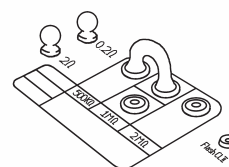
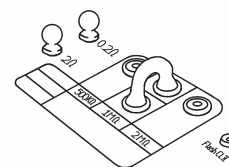
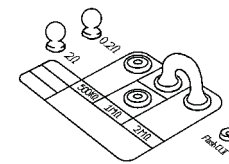

Figure 1
Figure 2
Figure 3
- 3) **Insulation** The Insulation test points are selected by moving the link between the 4 red test terminals. (See Figure 1, Figure 2 and Figure 3). Select the value required and perform an Insulation test. The PAT tester will indicate the test measurement taken.
- 4) **Class I Flash Test** The Class I Flash test points are selected by moving the link between the 4 red test terminals (see Figure 1, Figure 2 and Figure 3). The value selected is referenced to a table printed in the lid of the PowerCheck 1557. Select the test current required and perform a Flash test. The PAT tester will indicate the test measurement taken.
- 6) **PE Current Test** The PE currents are selected by moving the link between the 4 red test terminals (see Figure 1, Figure 2 and Figure 3). The value selected is referenced to a table printed in the lid of the PowerCheck 1557. Select the test current required and perform a Leakage test. The PAT tester will indicate the test measurement taken.